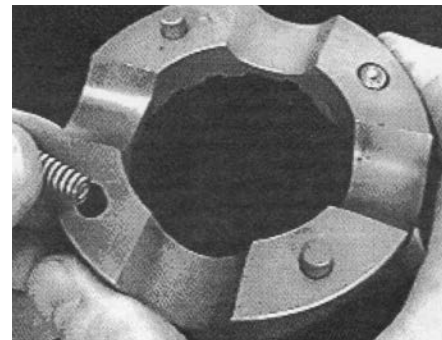

Figure 6. Repeat step 6 with the other driver. The grease placed in the holes earlier will help hold everything in place.
7. Repeat step 6 with the second driver (the one that is not yet in the housing). The grease placed in the holes earlier will help hold things in place (Figure 6). Note: at this point, each driver should have two stop pins and two double spring assemblies installed.